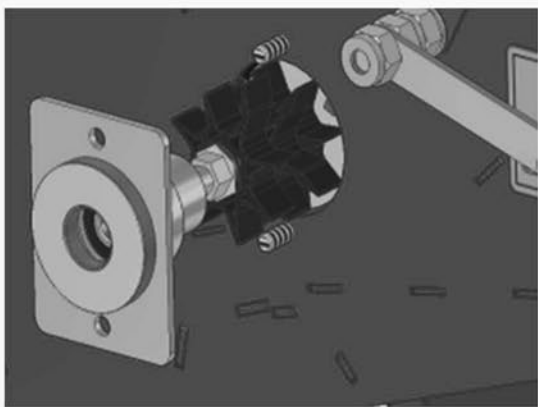

Figure 26
- Now remove the entire seeding shaft along with the side cover plate (Figure 26).